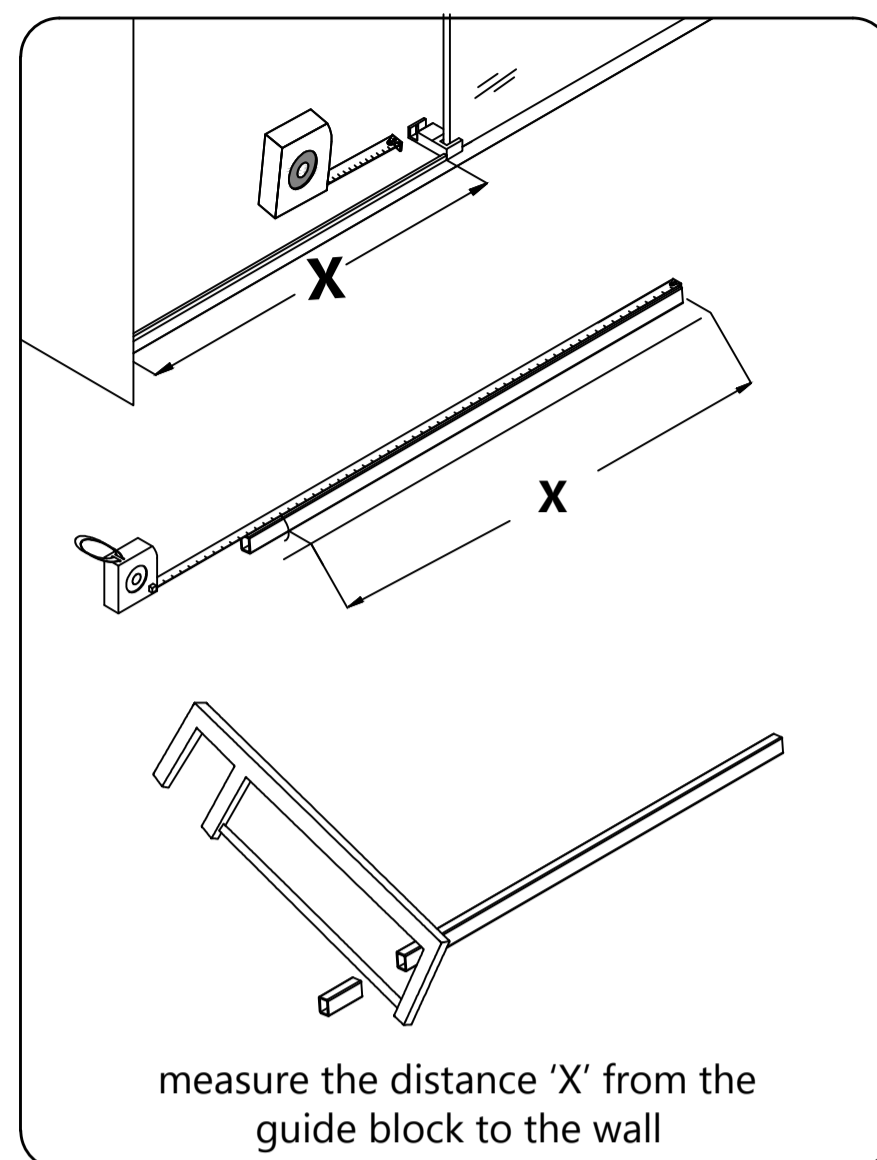

Fig 13
13 Measure the distance from the edge of the **Guide Block (C)** to the wall. This distance will be "X". Cut the **Anti-Splash Guard (B)** to the size of: X. **(Fig 13)**